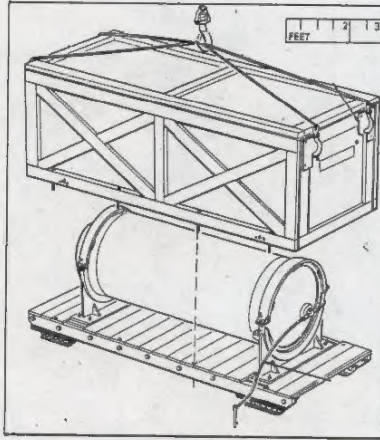

Figure 3-4. Missile rocket-motor container.
- (2) The missile rocket motor is received in a wooden container that has a gross weight of approximately 3,800 pounds (fig 3-4). The missile rocket-motor initiators also are in this container.